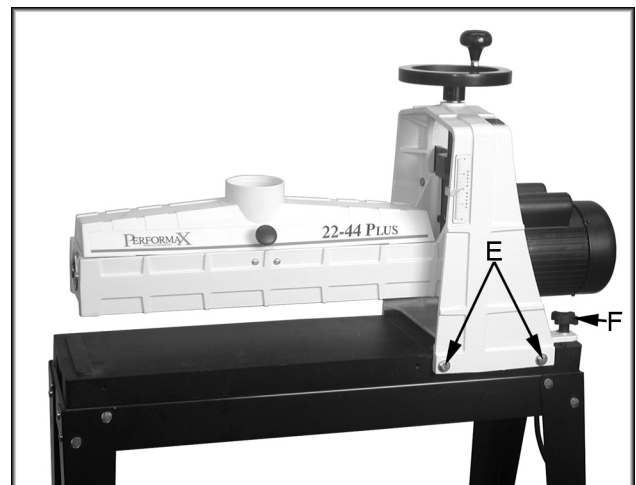

Fig. 5
1. Loosen the four hex cap bolts (Fig. 5, Item E) (two in front and two in back).
3. Adjust the knob, (Fig. 5, Item F) until the drum contacts the gauge equally along its entire surface. Turn the adjusting knob clockwise to raise the outboard end of the drum, and counterclockwise to lower the outboard end of the drum.